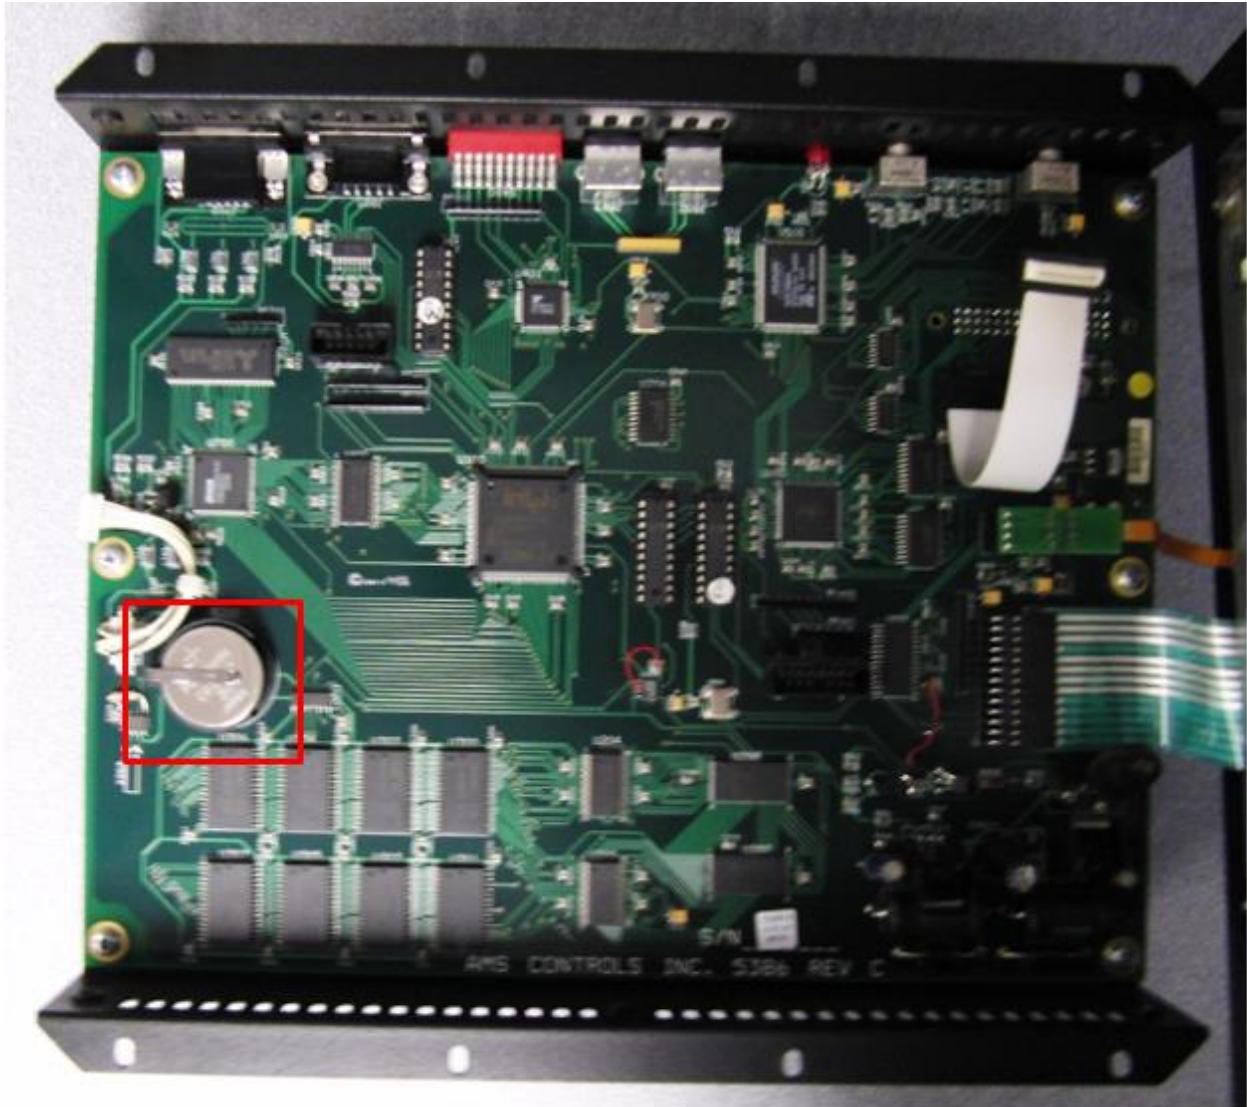

Figure 10 - Bottom side of board
8. Locate the Panasonic CR2354 battery as shown in Figure 10.